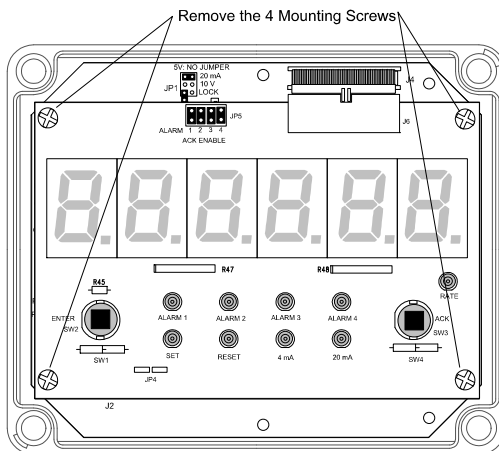

Figure 1. Removing the Display Board
2. Remove the four mounting screws holding the Display Board (see Figure 1).
2. Replace the four mounting screws (see Figure 1).